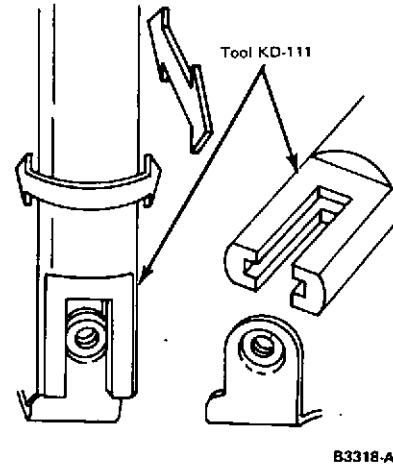

FIG. 10 Using Alignment Tool
- Using the tool shown (Figure 10) and exerting very light pressure, align the breaker point bracket. Do not bend the breaker arm.